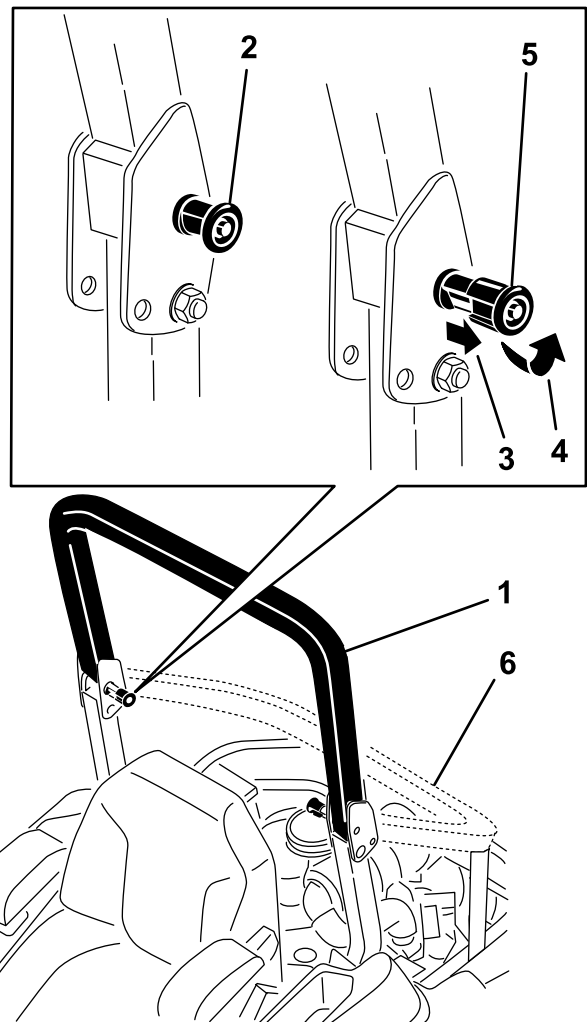

Figure 8
2. Pull both knobs out and rotate them 90 degrees so they are not engaged (Figure 8).
3. Lower the roll bar to the down position (Figure 8).
1. Raise the roll bar to the operating position and rotate the knobs until they move partially into the grooves (Figure 8).
2. Raise the roll bar to the full upright position while pushing on the upper roll bar so that the pins snap into position when the holes align with the pins (Figure 8).